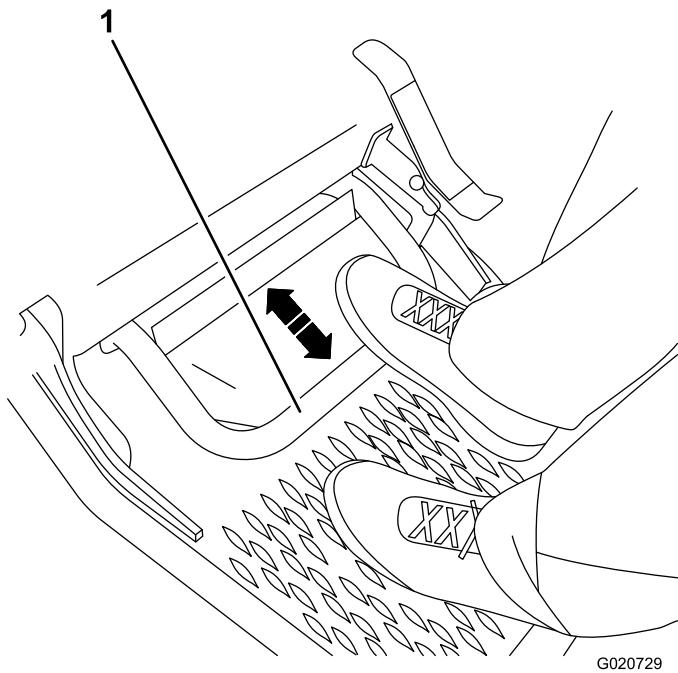

Figure 30
4. Step on the service brake pedal (Figure 30).
2. Step on the service brake pedal (Figure 30).